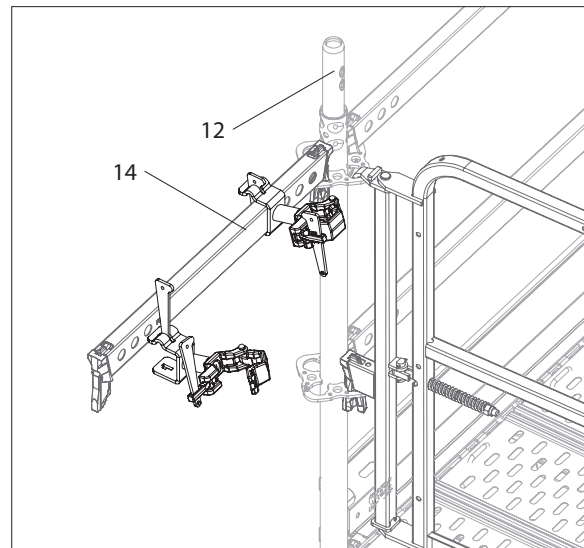

Fig. A9.06a
1. Insert horizontal ledger (14) 1 m above the deck level on torsionally stiff standard (12) in the rosette and hammer wedge tight.
2. Install Ladder Connector Ledger UAM-S or UAM-W (72) on horizontal ledger (14).
3. Open the ladder connectors and place, for example, Ladder Alu UAI (75) in the half-shells of the ladder connectors.
5. Close the ladder connectors and tighten the screws or hammer the wedges in tight. (Fig. A9.06a + A9.06b)